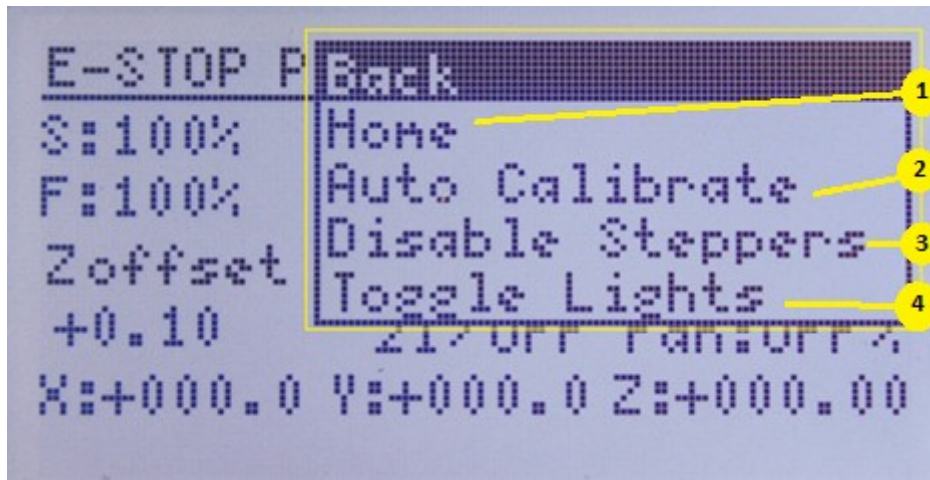

FIG 15.
14. The "MORE" Function will display a drop-down menu with secondary functions shown in **FIG 15**. More information is available below.
From the main display **FIG 14-14** select the "More" item. From the drop-down menu **FIG 15**, select "Auto Calibration". Make sure not to touch the bed during this operation.